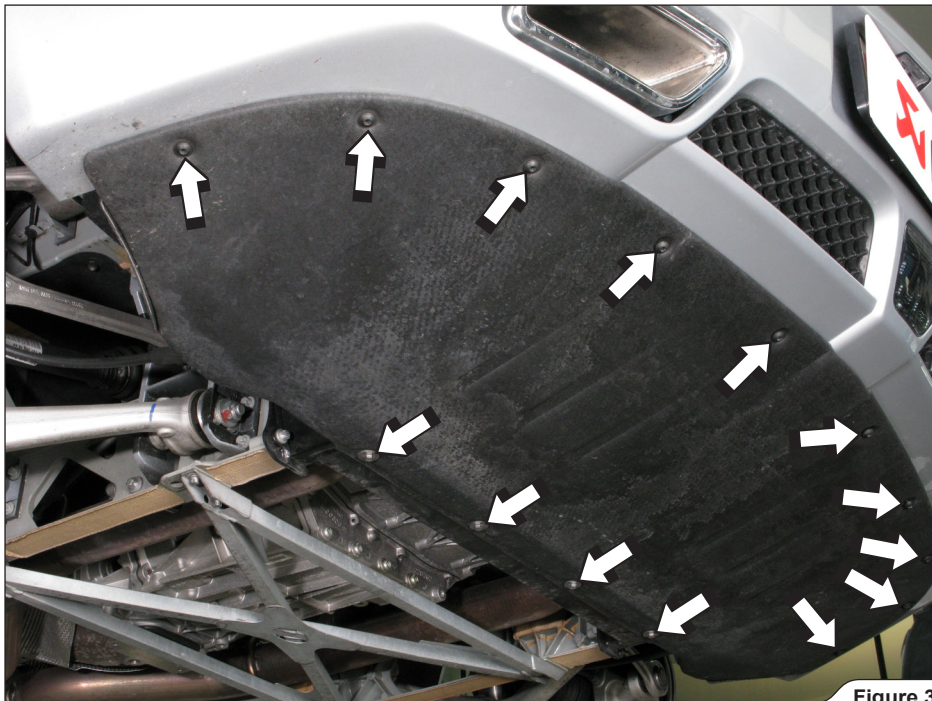

Figure 3
2. Unscrew the marked bolts and remove the diffuser off the vehicle (**Figure 3**).